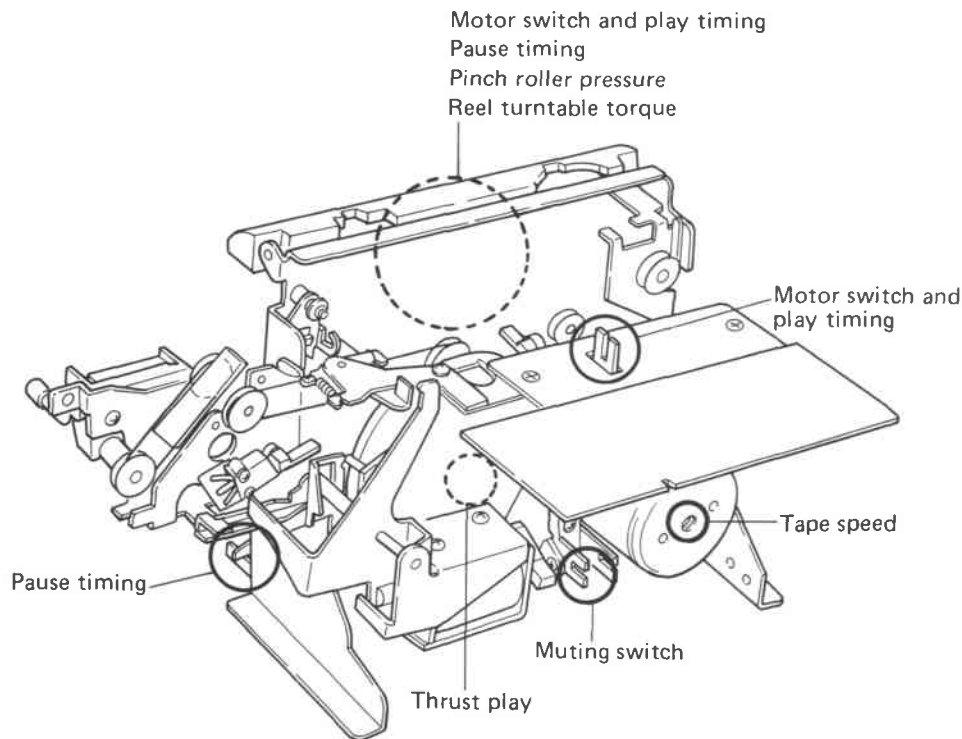

Fig. 19 Adjustment points
- The mechanism section adjustment points are shown in Fig. 19.